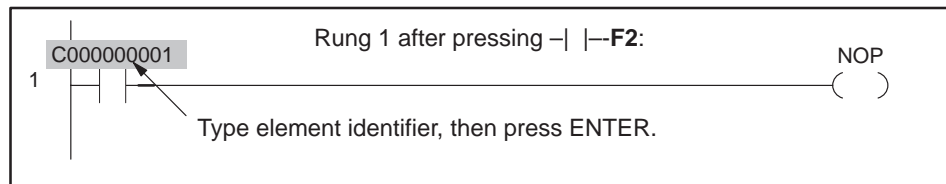

Figure 7-7 Entering Contacts
2. Press the `-| |`-F2 or `-|/|`-F3 contact function key to place the contact on the rung. After the contact appears, the cursor highlights the element identifier field, as shown in Figure 7-7.